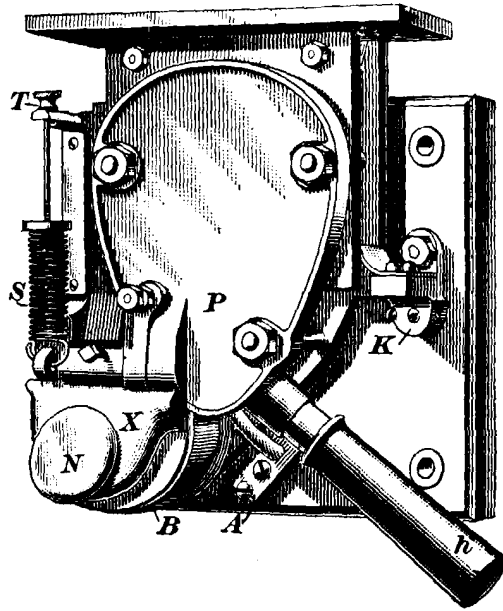
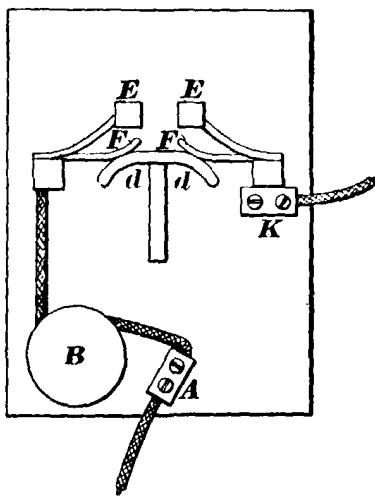

FIG. 25.
FIG. 26.
21. Fig. 25 shows another circuit-breaker of larger capacity. This type is also used on cars equipped with heavy motors. When so used, it is in many cases mounted in a box with the handle h projecting at one end. A and K are the terminals of the breaker and B is the tripping coil, which also serves to set up the magnetic field necessary for blowing out the arc. X is the armature of coil B and is pulled down against the action of the spring S whenever the current exceeds that for which the breaker is set. The tripping current is adjusted by means of nut T . The iron plate P and a similar one back of it are magnetized by the current in coil B , and as the break takes place between these two poles, the arc is promptly extinguished by the field that exists there. Fig. 26 will
give an idea as to the principle of operation. A and K are the terminals, $d d$ is a contact that is forced up against F, F when the breaker is set. The current then takes the path $A-B-F-d d-F-K$. When the breaker trips, the contact piece $d d$ flies down and the tendency is for an arc to form between F, F ; the magnetic field blows the arc upwards, and whatever burning takes place is on the contacts E, E , which are so constructed that they may be readily renewed. When it is desired to trip the breaker by hand, the knob N , Fig. 25, is pressed.